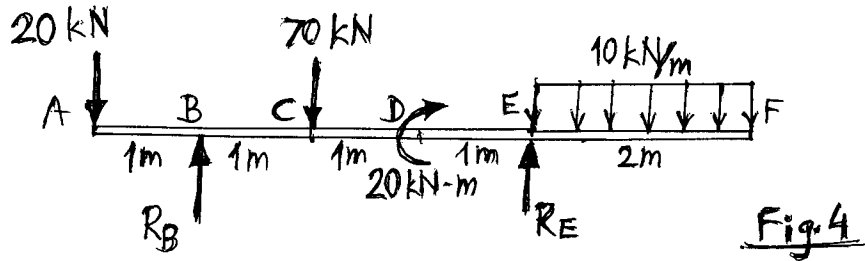

Fig.4
- Q.2 Draw neat S.F.D. and B.M.D for the beam shown in fig. 4. Show all salient features and locate points of contraflexure. Show all calculations clearly. (10)